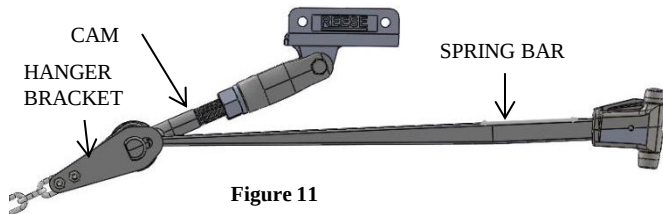
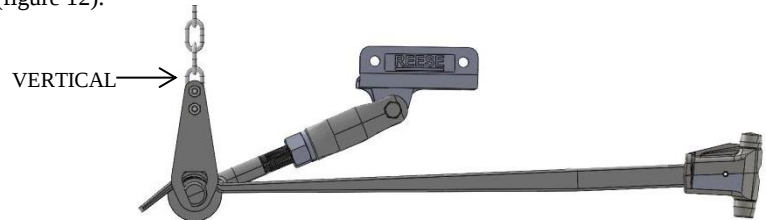

Figure 11
Figure 12
1. With the C-clamps still in place, center punch (2) holes in the frame for each bracket.
2. Drill (2) 17/32” holes in each side of the frame where the punched center marks were made. The use of a center drill or small pilot hole may be very helpful prior to final drilling.
3. Install the (2) supplied ½-13 x 1 ½” Bolts, ½” Lock Washers & ½” Nuts (items 5,6 & 7) figure 12. Repeat for opposite side and torque (4) ½-13 Bolts to 85 ft-lb.
3. Install the Hanger Bracket (with the ends of the u-bolts facing inward) and Chain onto the cam by slipping the keyed slot of the hanger bracket over the button end of the cam arm (figure 11). Rotate Hanger bracket to the vertical position and pull chain vertical to the chain attachment point on the snap-up bracket (figure 12).